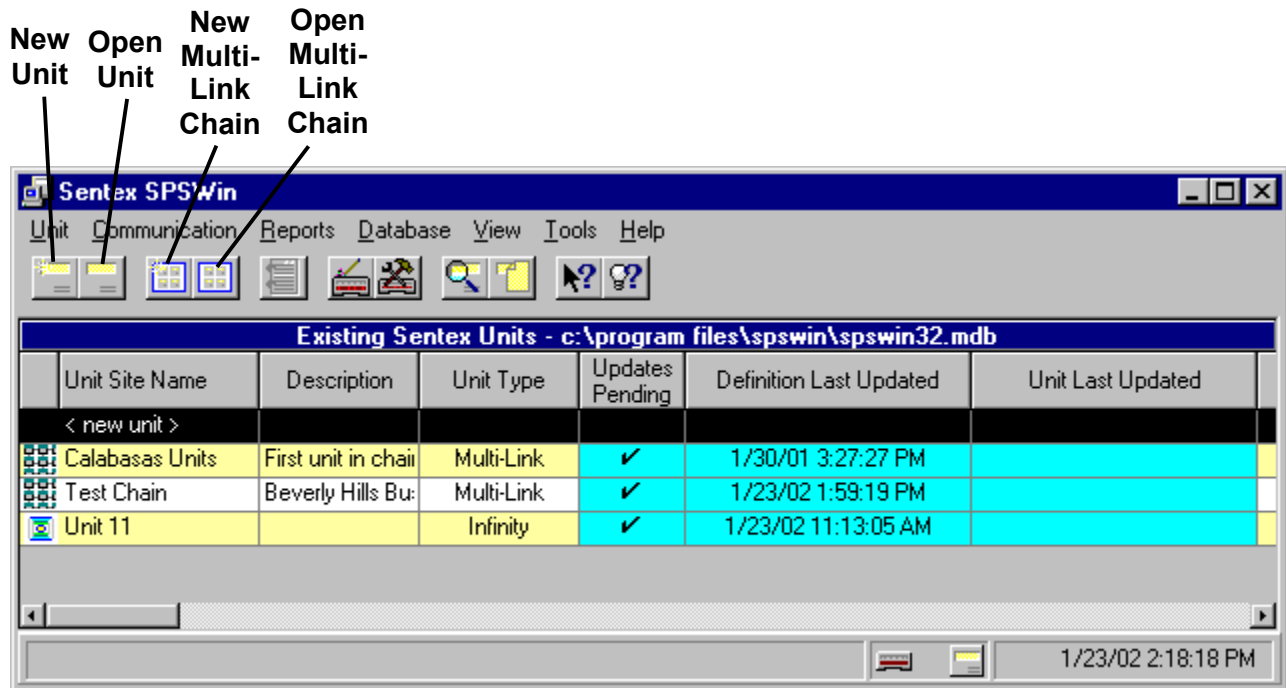

Figure 44: SPSWin Main Window Unit Site Name Selection
- Stand-Alone Units:** In the SPSWin Main Window, double click on the desired unit name in the Unit Site Name column of the list of Existing Sentex Units, **OR** click on the Open Unit icon (see Figure 44).
Multi-Link Chains: In the SPSWin Main Window, double click on the desired Multi-Link chain name in the Unit Site Name column of the list of Existing Sentex Units, **OR** click on the Open Multi-Link Chain icon (see Figure 44).